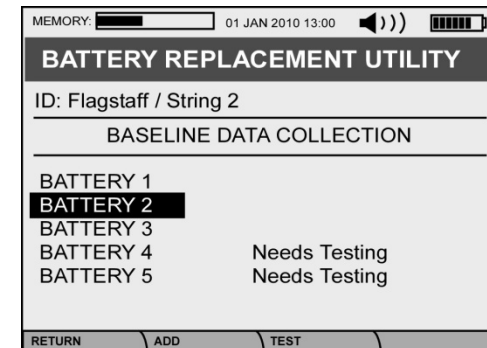

Figure 5.5. Main Battery Replacement Screen.
- (2) In the main **BATTERY REPLACEMENT UTILITY** screen (**Figure 5.5**), all of the batteries that can be replaced are listed and batteries that have not been tested yet are flagged as "**Needs Testing**". The "**Needs Testing**" is also displayed alongside the untested batteries flagged for replacement in IBMS™.
- (3) While in the main **BATTERY REPLACEMENT UTILITY** screen (**Figure 5.5**), the user may select a replacement battery to test by pressing **ADD (F2)**. When **ADD** is selected, the use is prompted to select the ID of the battery. Only ID values related to the battery